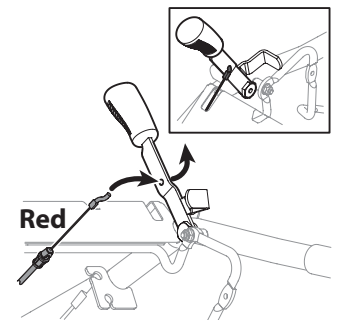

Figure 5
1. Carefully unwrap the reverse clutch control cable (red) from its shipping position and route it up the right side handle. Position the cable so that it rests above the small groove on the handle assembly in front of the reverse drive handle. See Figure 5.
2. Insert the cable Z-connector into the slot in the control panel from the inside of the handle outward. See inset in Figure 5.